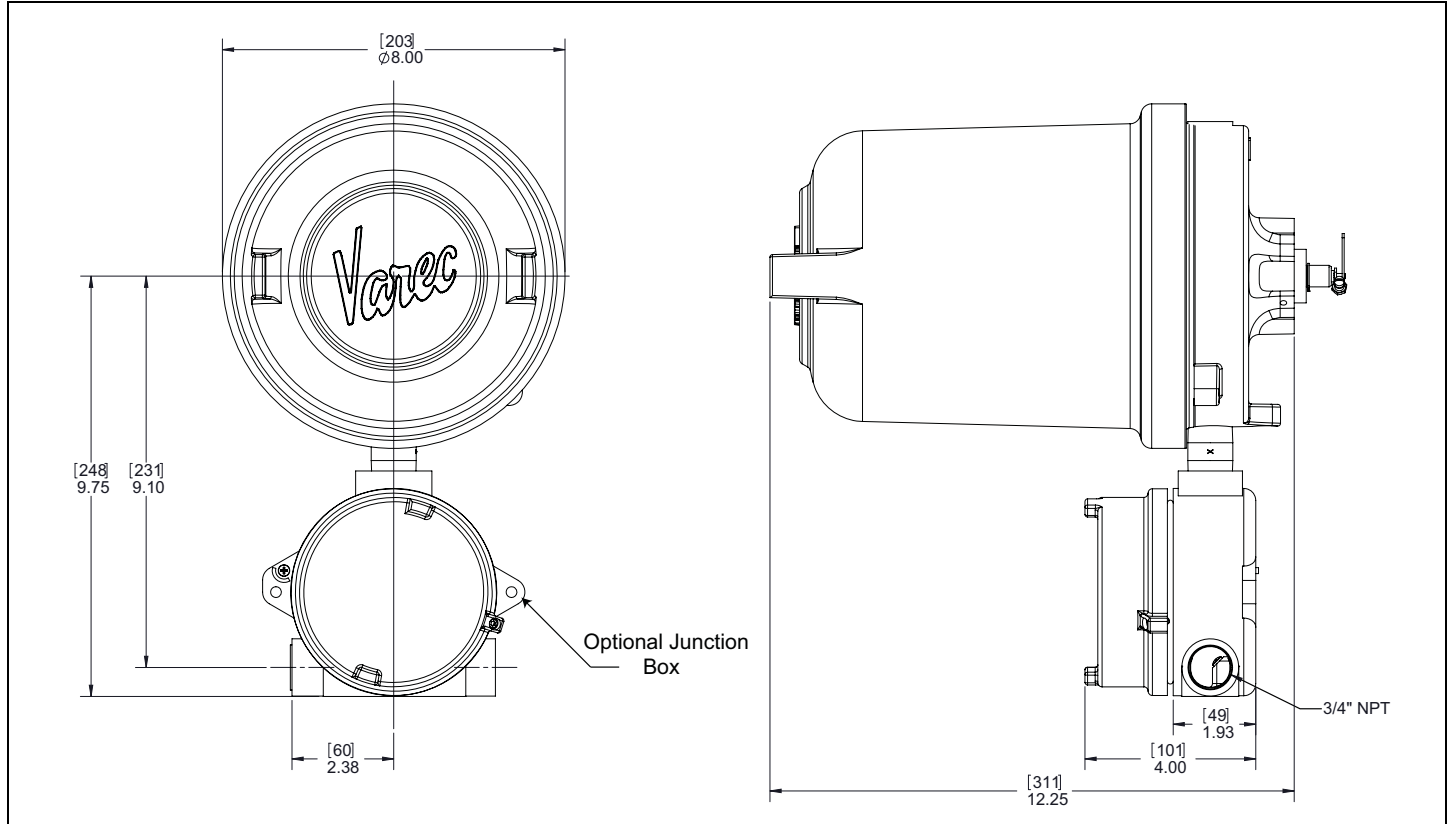

Figure 2-1: 2910 FTT Dimensions
2. There is sufficient space around the mechanical gauge to install the transmitter and accessories (such as conduit and cabling). Refer to Figure 2-1.